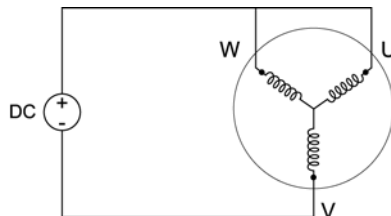

Figure 40 Hall Connection Diagram
1. With the motor's feedback cable connected to the drive/controller, randomly connect two motor input power wires and slowly apply a positive voltage with respect to the third. See Figure 40 on page 77.
2. Remove the motor input power leads, leaving the feedback cable connected to the drive/controller. Connect motor input power wires U and V and slowly apply a positive voltage with respect to W. (See Figure 40.)